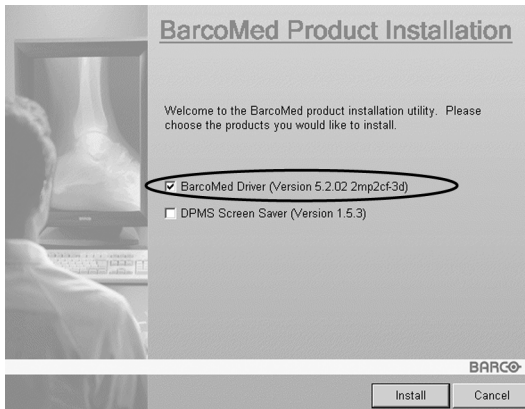

Figure 39
3. Make certain that the checkbox next to the driver is checked and that all other checkboxes are unchecked (figure 39 below). Click **"Install"** to continue.